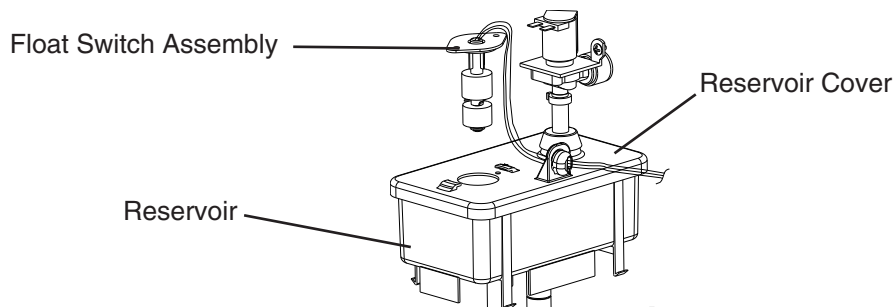

Fig. 21
- 10) In bad or severe water conditions, clean the float switch assembly as described below. See Fig. 21. Otherwise, continue to step 11.